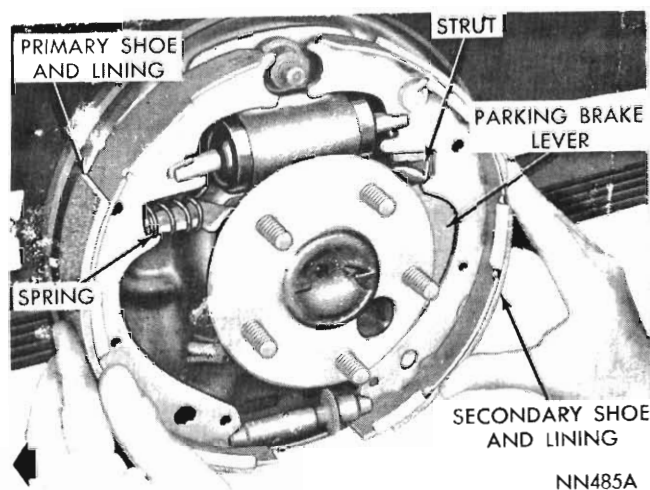

Fig. 7 - Installing brake shoes (left rear).
(2) Attach the parking brake lever to the rear (inside) of the secondary shoe.
(3) Lubricate the threads of the adjusting screw between the primary and secondary shoes. Overlap the anchor ends of the primary and secondary brake shoes and install the adjusting spring and lever.
(4) Hold the brake shoes in their relative positions and engage the parking brake cable. Place the brake shoe assembly on the backing plate and over the anchor pin.
(5) Install the brake shoe retaining springs and attach to the retainer clips.
(6) Install the parking brake strut and spring between the parking brake lever and *primary* shoe. (Spring against shoe). *Refer Fig. 7*.
(7) Install the primary brake shoe return spring between the primary shoe and the anchor pin using Tool E5C20.
(8) Install the "eye" of the adjusting cable over the anchor pin. Lubricate the groove of the cable guide and install it in the secondary shoe.
(9) Install the secondary return spring with Tool E5C20.
(10) Place the adjusting cable in the groove of the cable guide and engage the hook of the cable into the adjusting lever.
(11) Test the operation of the automatic adjusters by operating the cable, also check that the handbrake strut has end float between the brake shoes. (Re-adjust handbrake cable if necessary to obtain clearance).
(12) Install the brake drums, wheels and tighten correctly (*refer Para. 9*).
(13) Adjust brakes (*refer Para. 2*).